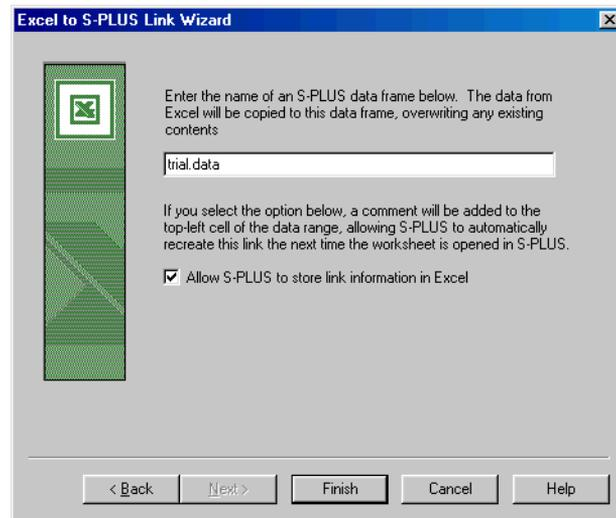

Figure 10.6: Naming the new data frame in Spotfire S+.
8. As shown in Figure 10.6, the final page of the wizard asks you to specify a name for the new S-PLUS data frame. Type the name of your choice in the text box and click **Finish** to close the wizard and create the link from Excel to Spotfire S+.